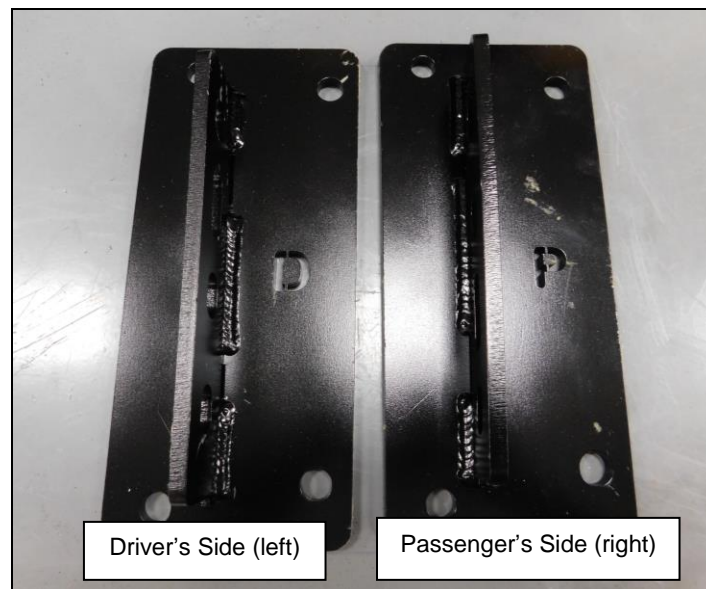

Figure 1
NOTE: The Transmission Mount will be installed between the Adapter Plate and the **BHS542** Transmission Crossmember. **Fig.1**
3. Install the **BHS542** crossmember frame plates using the original bolts removed from the OEM transmission crossmember. The Driver's (left) and Passenger's (right) side frame plates are marked for easy identification with a "P" or "D". The bolt holes in each frame plate are keyed to install with the marking on the top towards the cab to prevent the plates from being installed in the incorrect position (**Figure 1**).